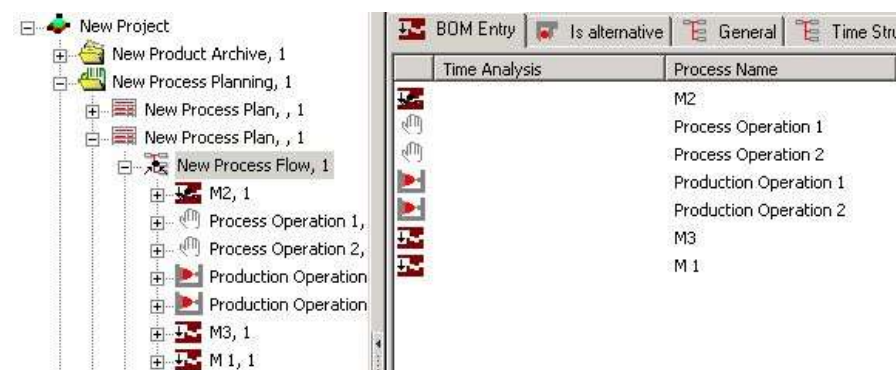

Figure 179: Objects Added to New Structure
You can open a table only on a node, which has been assigned a further hierarchical structure. This structure can be made up of different plantypes which are independent of the plantype set used in the project. In the contextual menu of the table view (contextual menu for a line), the configured plantypes for which you can create new objects are shown. *Please refer to the Figure 179.*
- 3) Select **New** and then select the corresponding plantypes. In Figure 179, the plantype Test and measuring operation is shown. The new object is immediately shown in the table.